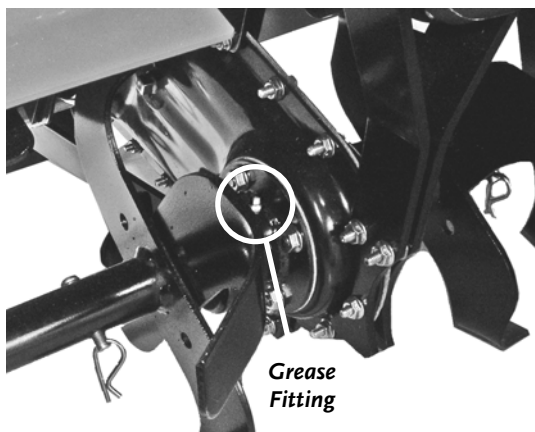

Figure 18
Grease the Tines Shaft using a Grease Gun with General Purpose grease every 8-10 hours. Apply about ten (10) pumps of the grease in the Grease Fitting (**Figure 18**). Perform this lubrication more often in dry and dusty environments.